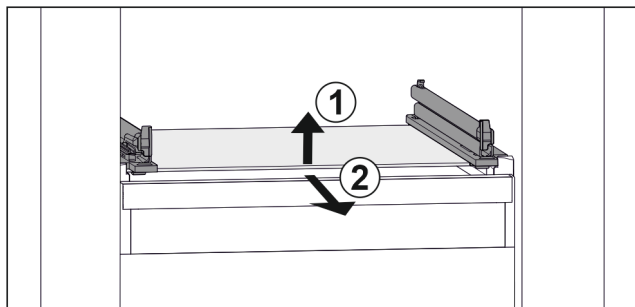

Fig. 47 Example illustration of glass shelf
- Lift glass shelf at the front. Fig. 47 (1)
- Take out glass shelf to the front. Fig. 47 (2)